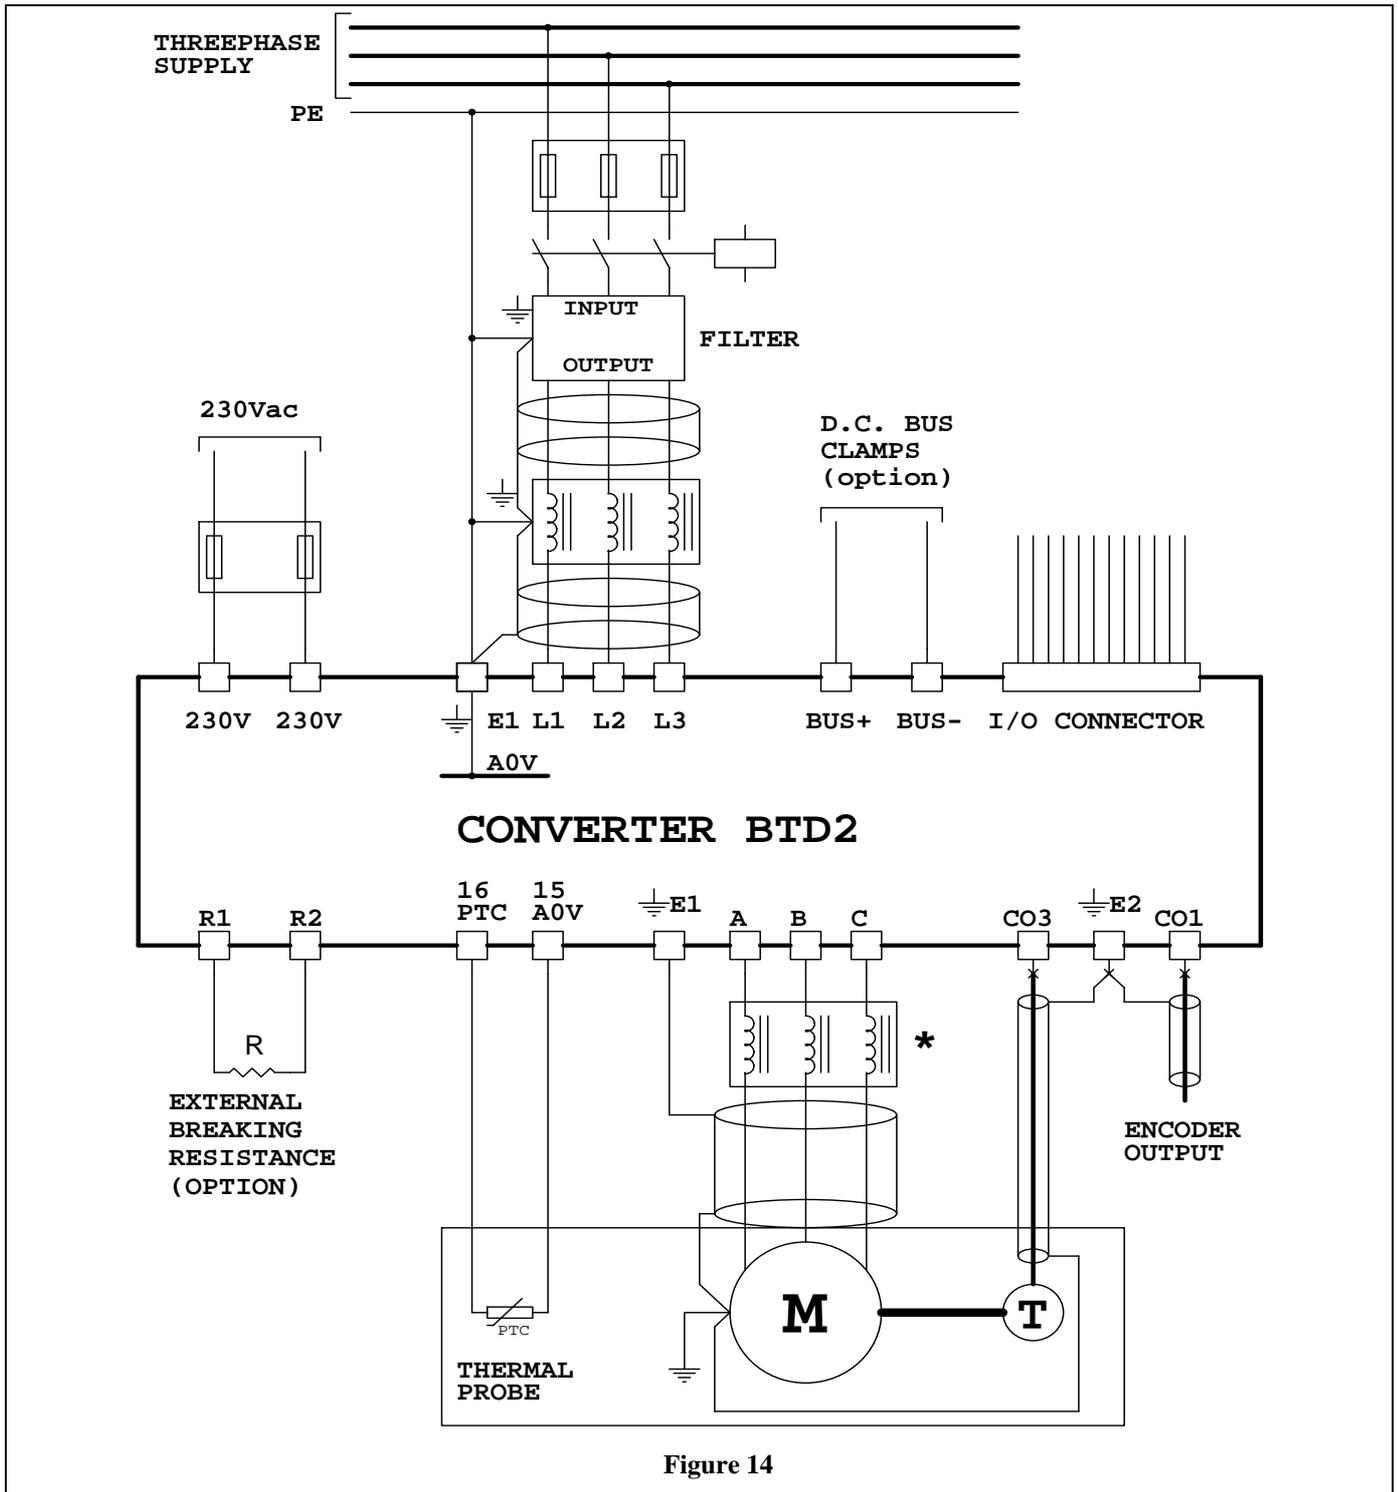

Figure 14
- For the sizing of the reported components in the Figure 14 to see **Chart 1** and **Chart 2** on page 14.
- To connect the thermal probe in the suitable way in the Figure 14 only if such signal is not available on the connector of the transducer.
* = In this motor the thermal probe (PTC) it is not connected on the connector of the signals. To connect her therefore to the clamps n°15 and n°16 of the converter (to see Figure 14 on page 34 and point 3.3.6 on page 18).
To connect her therefore to the clamps n°15 and n°16 of the converter (to see Figure 14 on page 34 and point 3.3.6 on page 18).